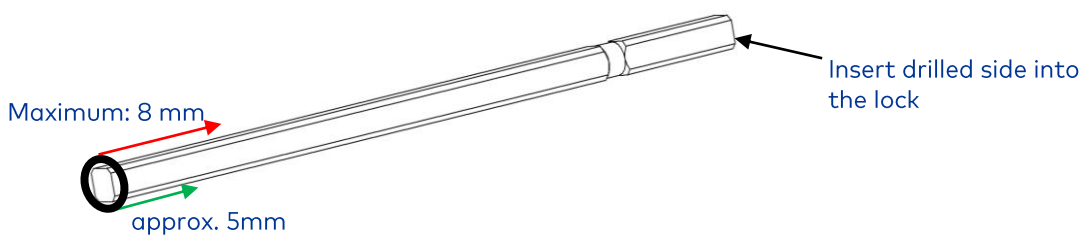

Figure 34: Mounting the O-ring
Insert the O-ring (3) on the side of the optionally shortened drive shaft that was not drilled (see 12.3) over a length of 5 mm, but not more than 8 mm (see Figure 34).
Next, the drive shaft (2) is inserted into the lock with its drilled side pointing forward (see Figure 34) as far as it will go.